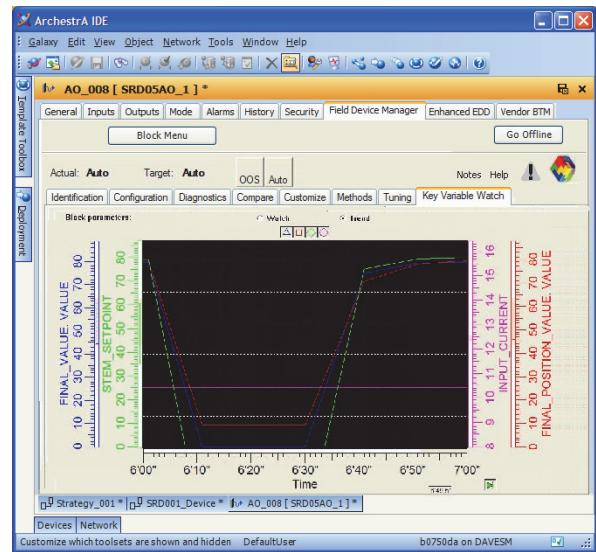

Figure 12. Watch Tab with Trend Format
- ▶ The Watch Tab – Trend Format (Figure 12) displays a real-time trend of up to eight parameters of a device block.